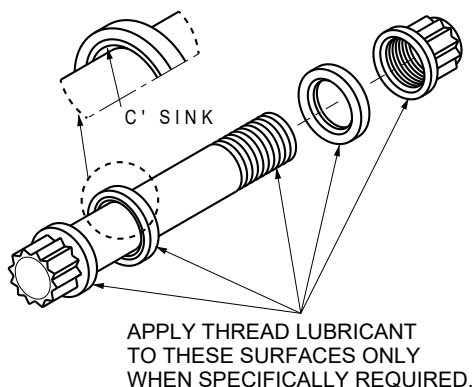

Figure 312 - Wheel Tie Bolts
NOTE: All Torque values listed on Cleveland Products are considered to be “DRY TORQUE” values unless a thread lubricant is specified conforming to either SAE AMS2518 (ref MIL-T-5544) or MIL-PRF-83483 (Molydisulphide) and applied to all friction surfaces as shown in Figure 312. Only use the thread lubricant specified for your wheel assembly.
- 2 Install bolts through brake disc and wheel halves. Both plain and countersunk washers may be used. Some designs use bolts that have a radius between the head and shank, which requires the countersunk washers. Inspect bolts and washers prior to assembly. (Ref. Figure 312). Properly oriented washers with countersunk surfaces to sit flush against the bolt head. Install washers and nuts on bolts (bolt heads are to be on brake disc side of wheel). Torque nuts to value specified on wheel casting or nameplate, using a crisscross pattern until all nuts are properly torqued. Do not use power tools for the installation of nuts and bolts.